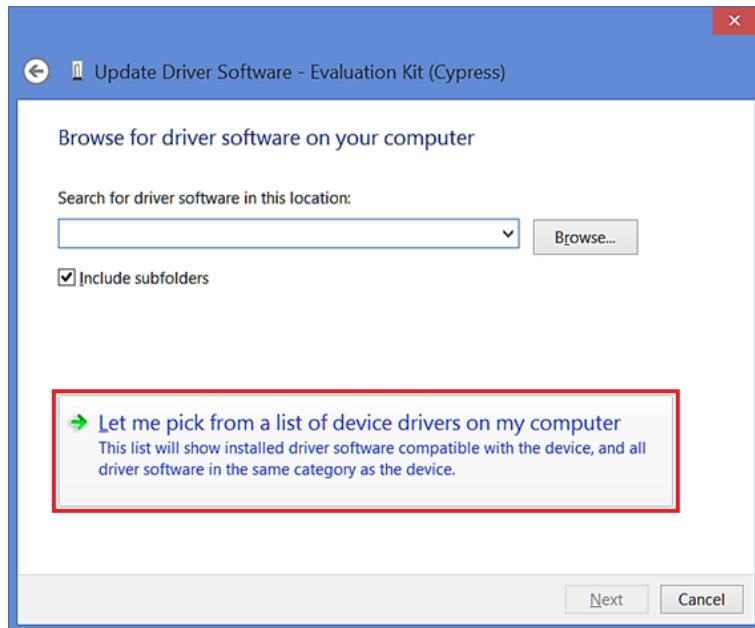

Figure 16. Update Driver Software – 2
5. Select "Let me pick from a list of device drivers on my computer": (Figure 16)